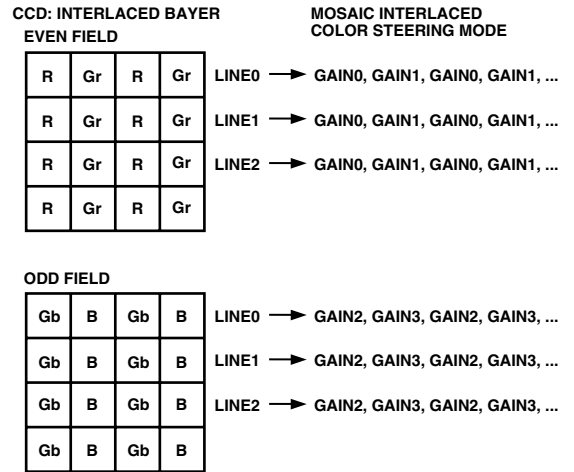

Figure 38b. CCD Color Filter Example: Interlaced
The same Bayer pattern can also be interlaced, and the Mosaic Interlaced Mode should be used with this type of CCD (see Figure 38b). The color steering performs the proper multiplexing of the R, G, and B gain values (loaded into the PxGA gain registers) and is synchronized by the vertical (VD) and horizontal (HD) sync pulses. The PxGA gain for each of the four channels is variable from -2 dB to +10 dB, controlled in 64 steps through the serial interface. The PxGA gain curve is shown in Figure 40.